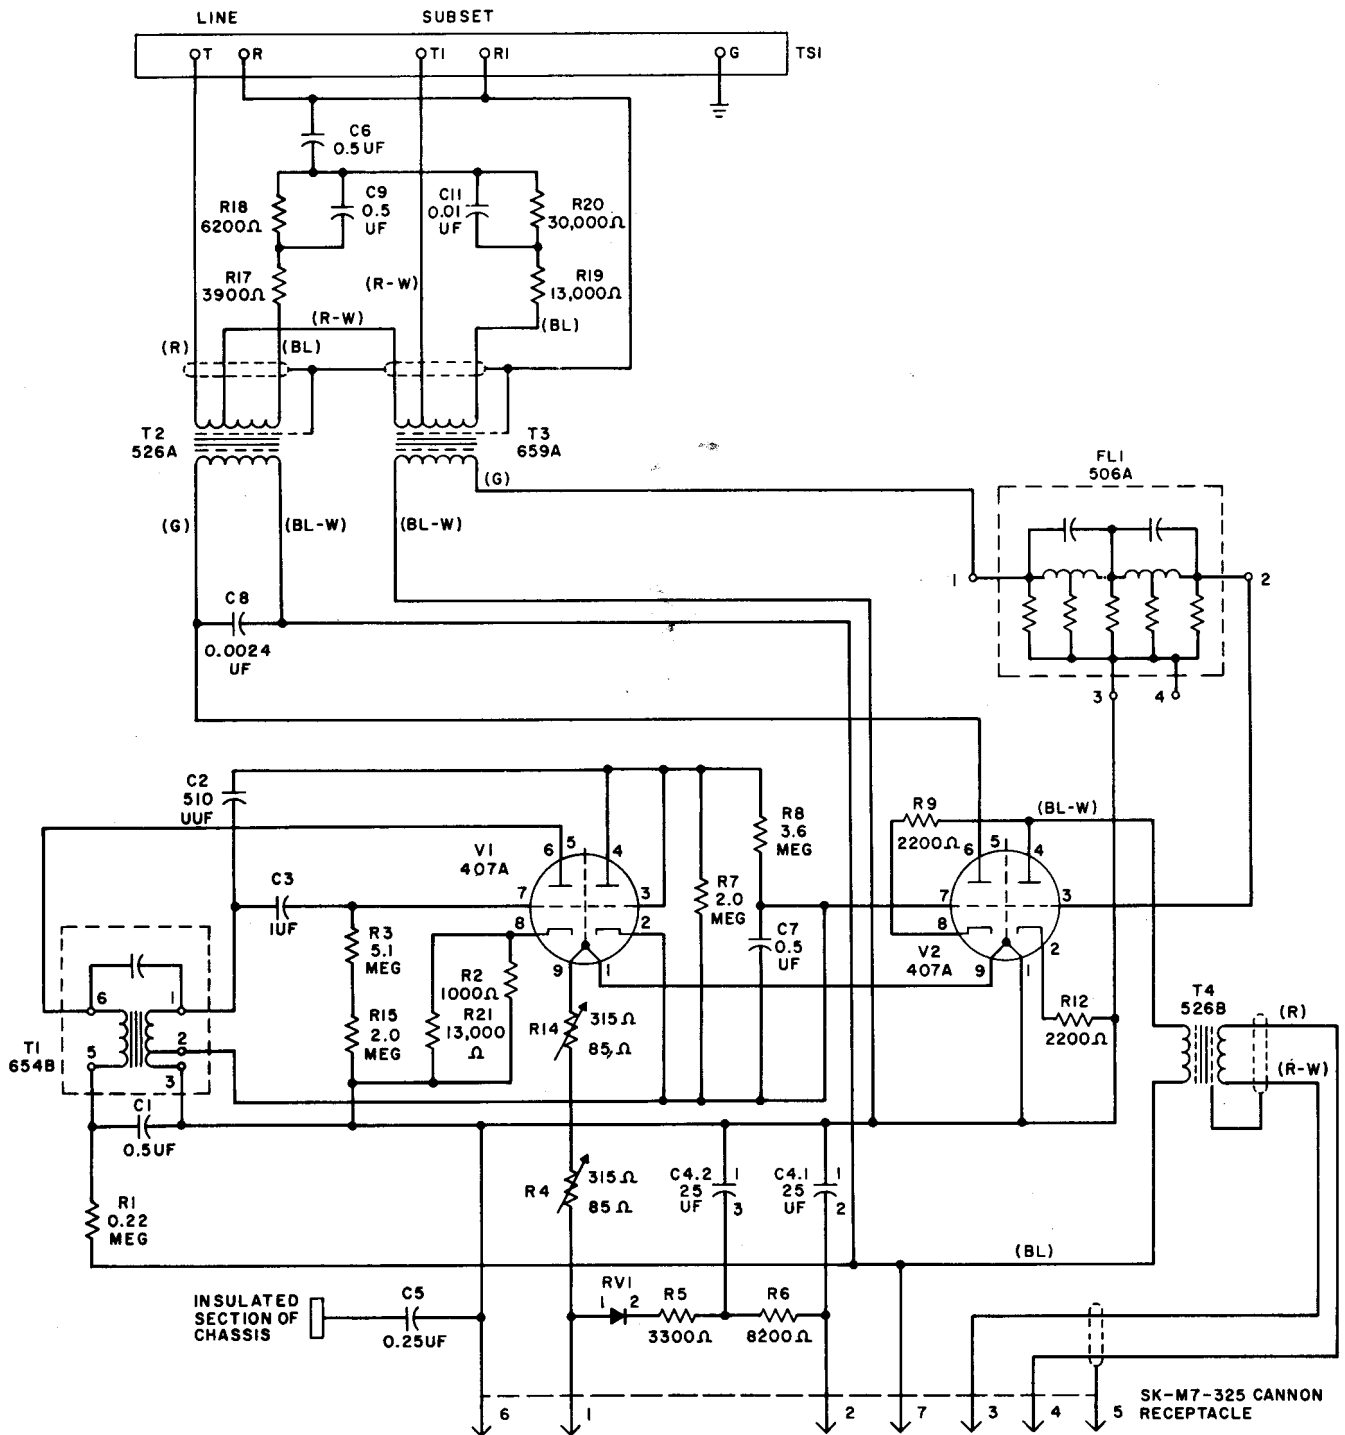

Fig. 1 - 50A Recorder Connector Schematic
2.03 Schematic drawings (Fig. 1 through 5) are included as an aid to maintenance.